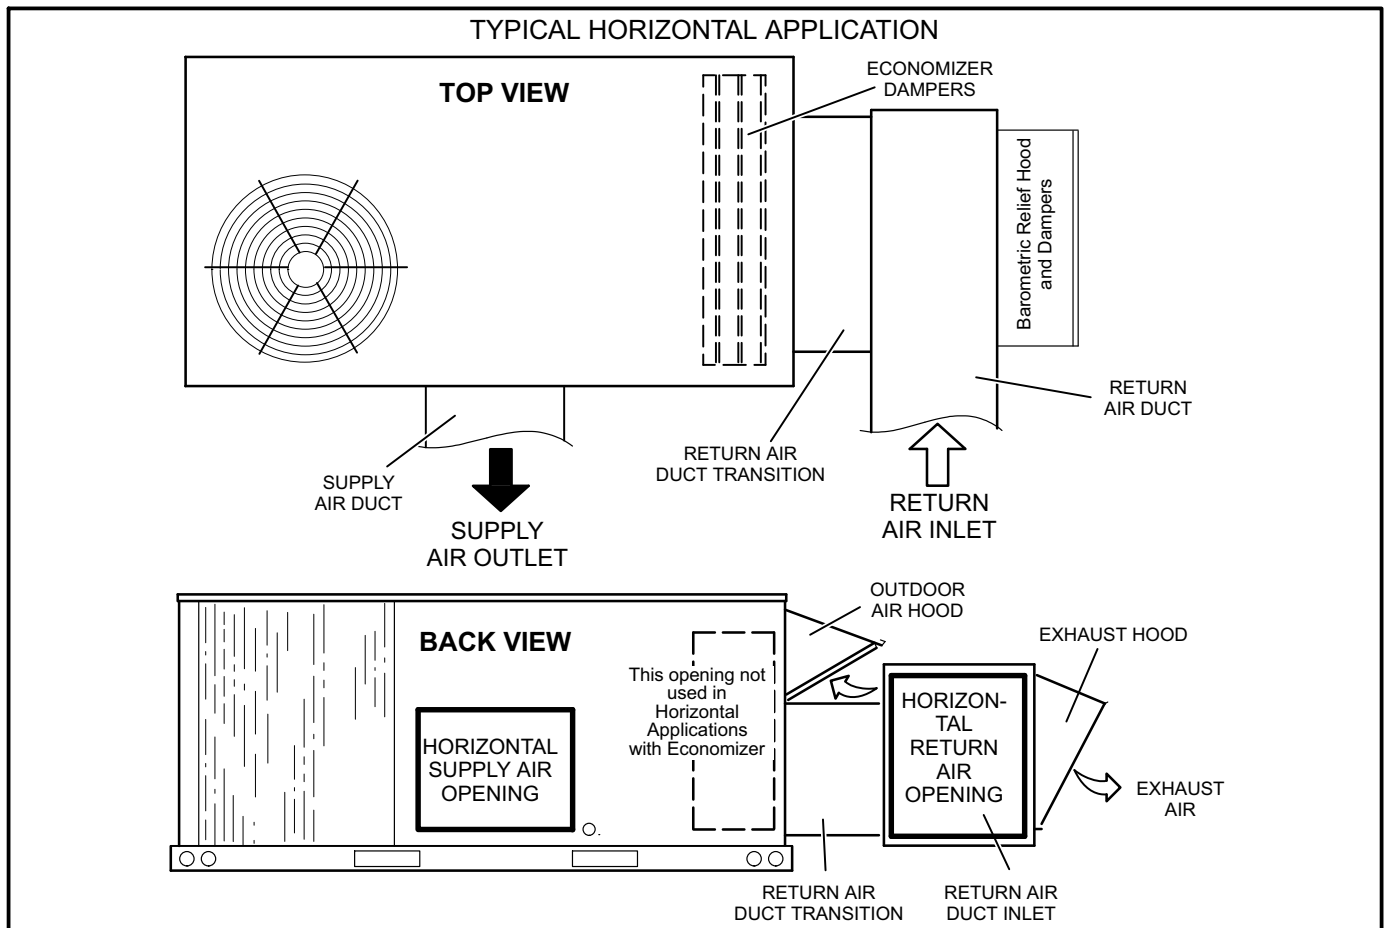

FIGURE 12
- 5- Install the field-fabricated return air duct transition and duct inlet on the unit end. See figure 12. Support the transition and duct inlet as needed.